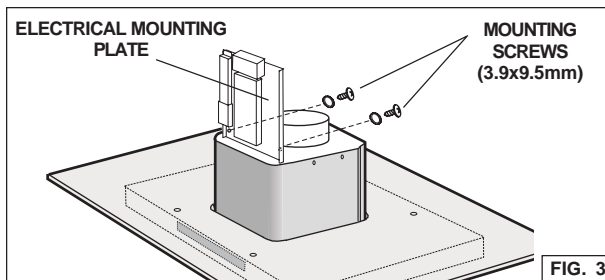

FIG. 3
Fix the electrical mounting plate with (2) 3.9x9.5mm screws and (2) serrated washers. Fig. 3.